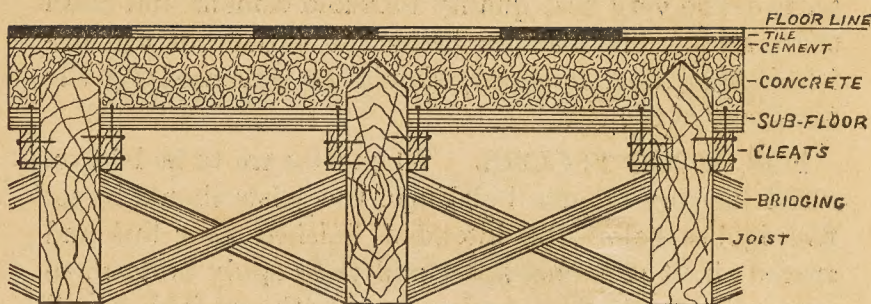

FIG. 2.
**IN OLD BUILDINGS.** Cleats are nailed to joists five inches below the intended finished floor line, and short pieces of boards  $\frac{1}{8}$  inch apart fitted in between the joists upon the cleats and well nailed, and the joists thoroughly bridged. The corners on the upper edge of the joists should be chamfered off to a sharp point (see Figure 2), as the flat surface of the joists will give an uneven foundation. When the strength of the joists will permit, it is best to cut an inch or more off the top. (Where joists are too weak, strengthen by thoroughly nailing cleats six inches wide full length of joists.) When the solid wood foundation is thus prepared, concrete is placed upon it as above directed.